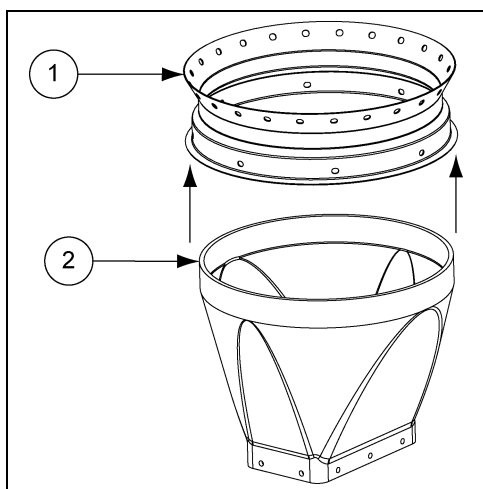
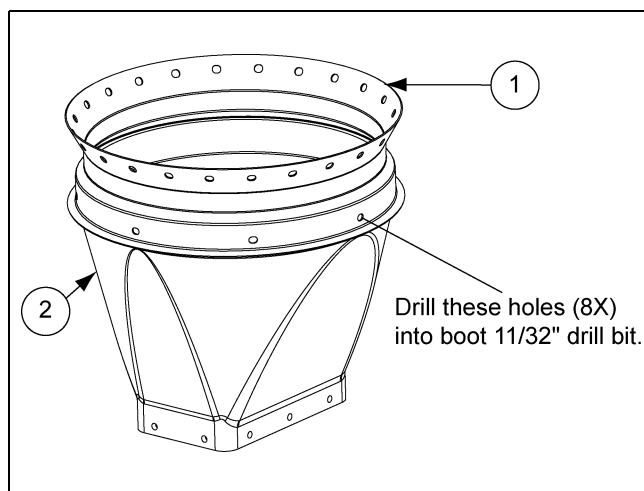

Figure 5A
Figure 5B
(See Figure 5A.) Align the boot with the Flex-Flo System that will be installed. Using the holes in the collars for guides, drill eight (8) 11/32" holes into the boot rim. (See Figure 5B.)